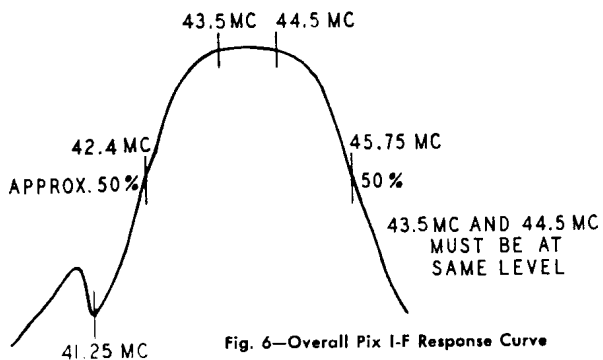

Fig. 6—Overall Pix I-F Response Curve
3. Set channel selector to Channel 13. Connect sweeper with very short leads through a 10 K mmf disc ceramic capacitor to mixer grid (lead of a 10 K resistor which is accessible through a hole located on front of the tuner). Readjust sweep output for 4.0V P-P, adjust 41.25 mc trap (bottom of L-200) so that notch is at marker, adjust mixer plate coil (L-8 primary) and input grid coil (top of L-200) for maximum gain and symmetry with 45.75 mc marker at 50%. (Figure 6.)